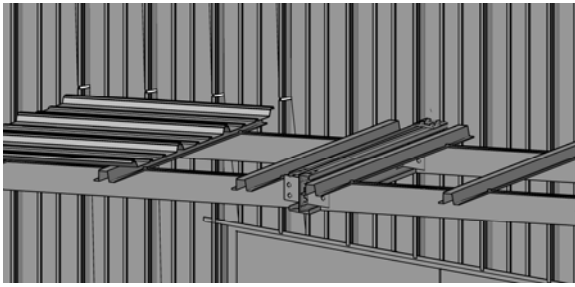

FIGURE 11
1. Place a Roof Sheet on to the Hat Purlins. Slide them against the building wall sheets as shown. Mark each of the wall corrugations at the top of the roof panel per **Figure 11**.